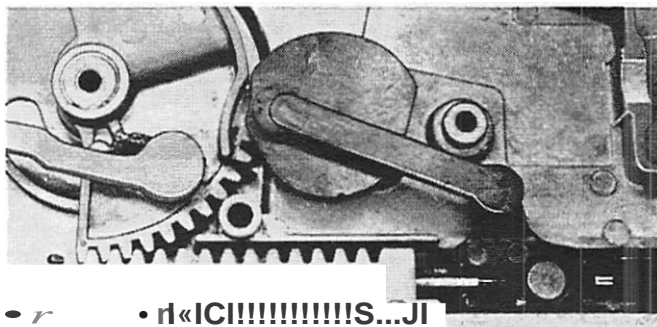

Figure 4. Throttle Sector, A-20015-S Cables
1. Relocate brass drum 1/8" (3.18mm) from end of conduit fitting. (Figure 4)
2. Line up first tooth of throttle sector with first tooth of throttle control rack, as shown in Figure 4.